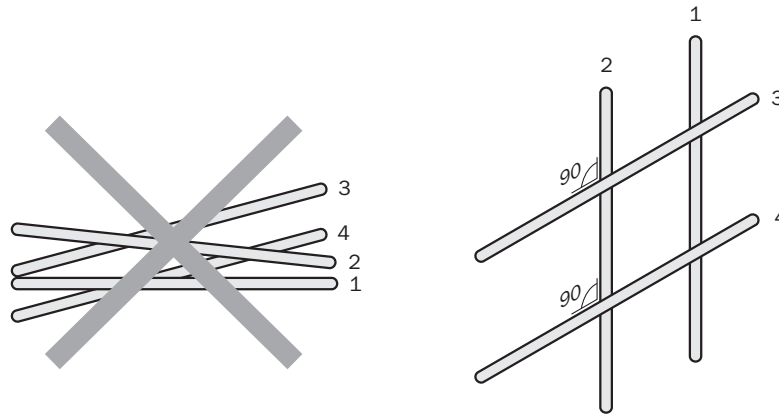

Figure 4: Cross cables at right angles
- ▷ Cables in groups 1, 2 and 3, 4 must be crossed at right angles see figure 4